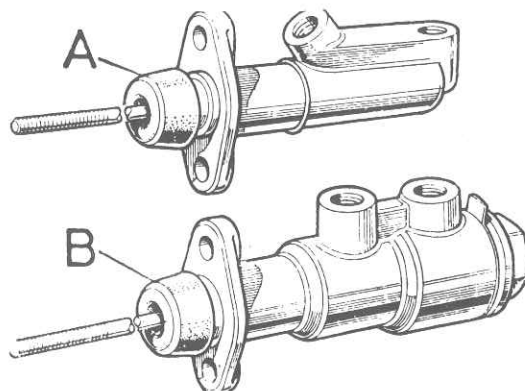

Fig. 9.22. Two types of master cylinder fitted to earlier models
1 Three different types of master cylinder have been fitted to the Land Rover. The Series II and IIA models are equipped with either the centre valve (CV) type or the compression barrel (CB) type (see Fig. 9.22).